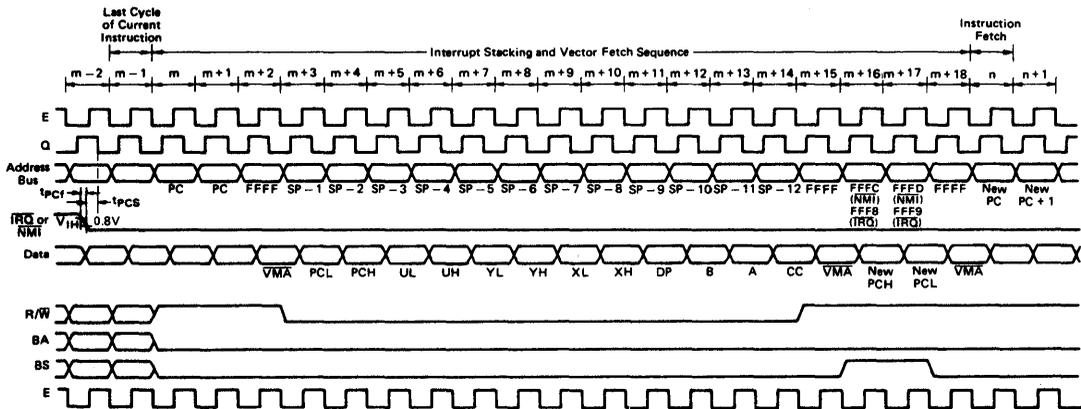

Figure 9 $\overline{\text{IRQ}}$ and $\overline{\text{NMI}}$ Interrupt Timing
hardware stack. After reset, an NMI will not be recognized until the first program load of the Hardware Stack Pointer (S). The pulse width of NMI "Low" must be at least one E cycle. If the NMI input does not meet the minimum set up with respect to Q, the interrupt will not be recognized until the next cycle. See Fig. 9.
A "Low" level input on this pin will initiate an interrupt Request sequence provided the mask bit (I) in the CC is clear. Since $\overline{\text{IRQ}}$ stacks the entire machine state it provides a slower response to interrupts than $\overline{\text{FIRQ}}$. $\overline{\text{IRQ}}$ also has a lower priority than $\overline{\text{FIRQ}}$. Again, the interrupt service routine should clear the source of the interrupt before doing an RTI. See Fig. 9.